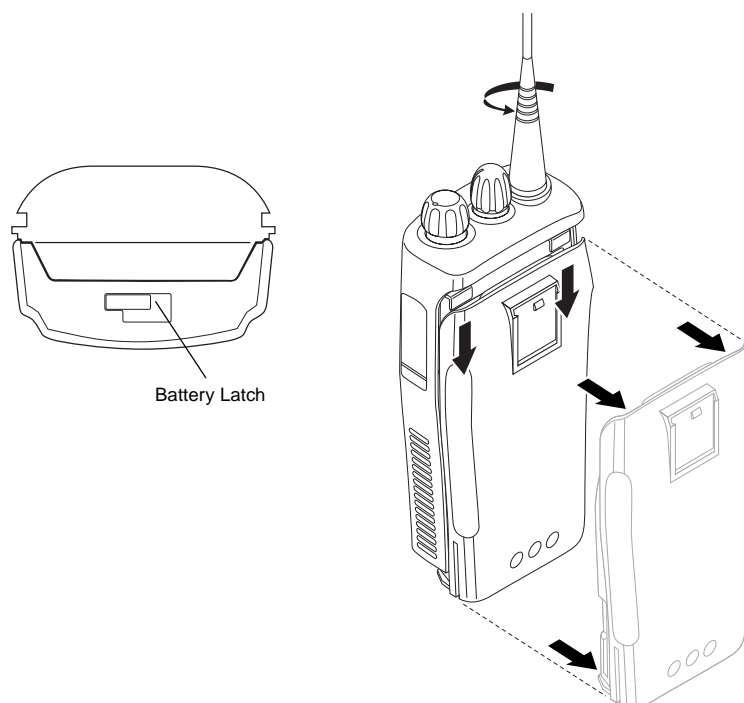

Figure 2-1. Battery Removal
2. Remove the battery (Figure 2-1):